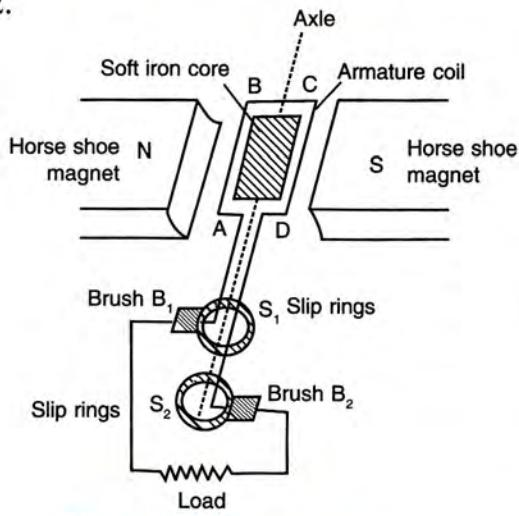

Fig. 10.32 A.C. generator
**Construction and its main parts :** The basic construction of an a.c. generator is shown in Fig. 10.32.